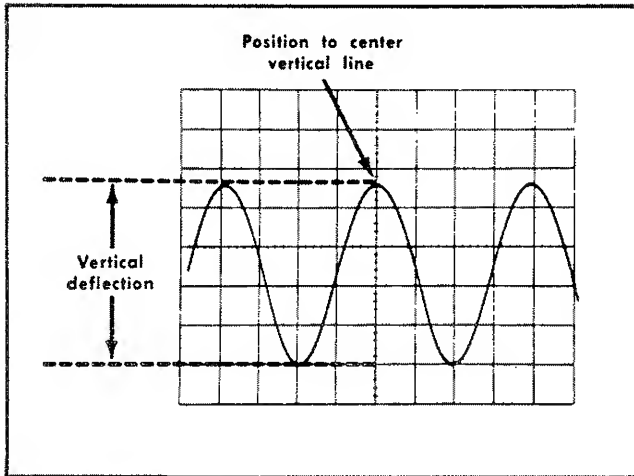

Fig. 1-6. Measuring peak-to-peak voltage of a waveform.
4. Turn the vertical Position control so that the lower portion of the waveform coincides with one of the graticule lines below the center horizontal line, and the top of the waveform is in the viewing area. Move the display with the horizontal Position control so that one of the upper peaks is aligned with the center vertical reference line (see Fig. 1-6).